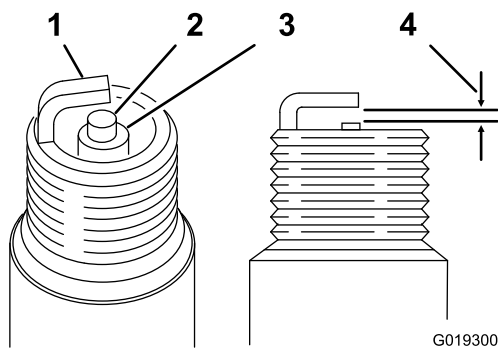

Figure 30
1. Look at the center of the spark plug (Figure 30). If you see light brown or gray on the insulator, the engine is operating properly.
2. Use a gapping tool for spark plugs or a feeler gauge to measure the gap between the side electrode and center electrode (Figure 30).